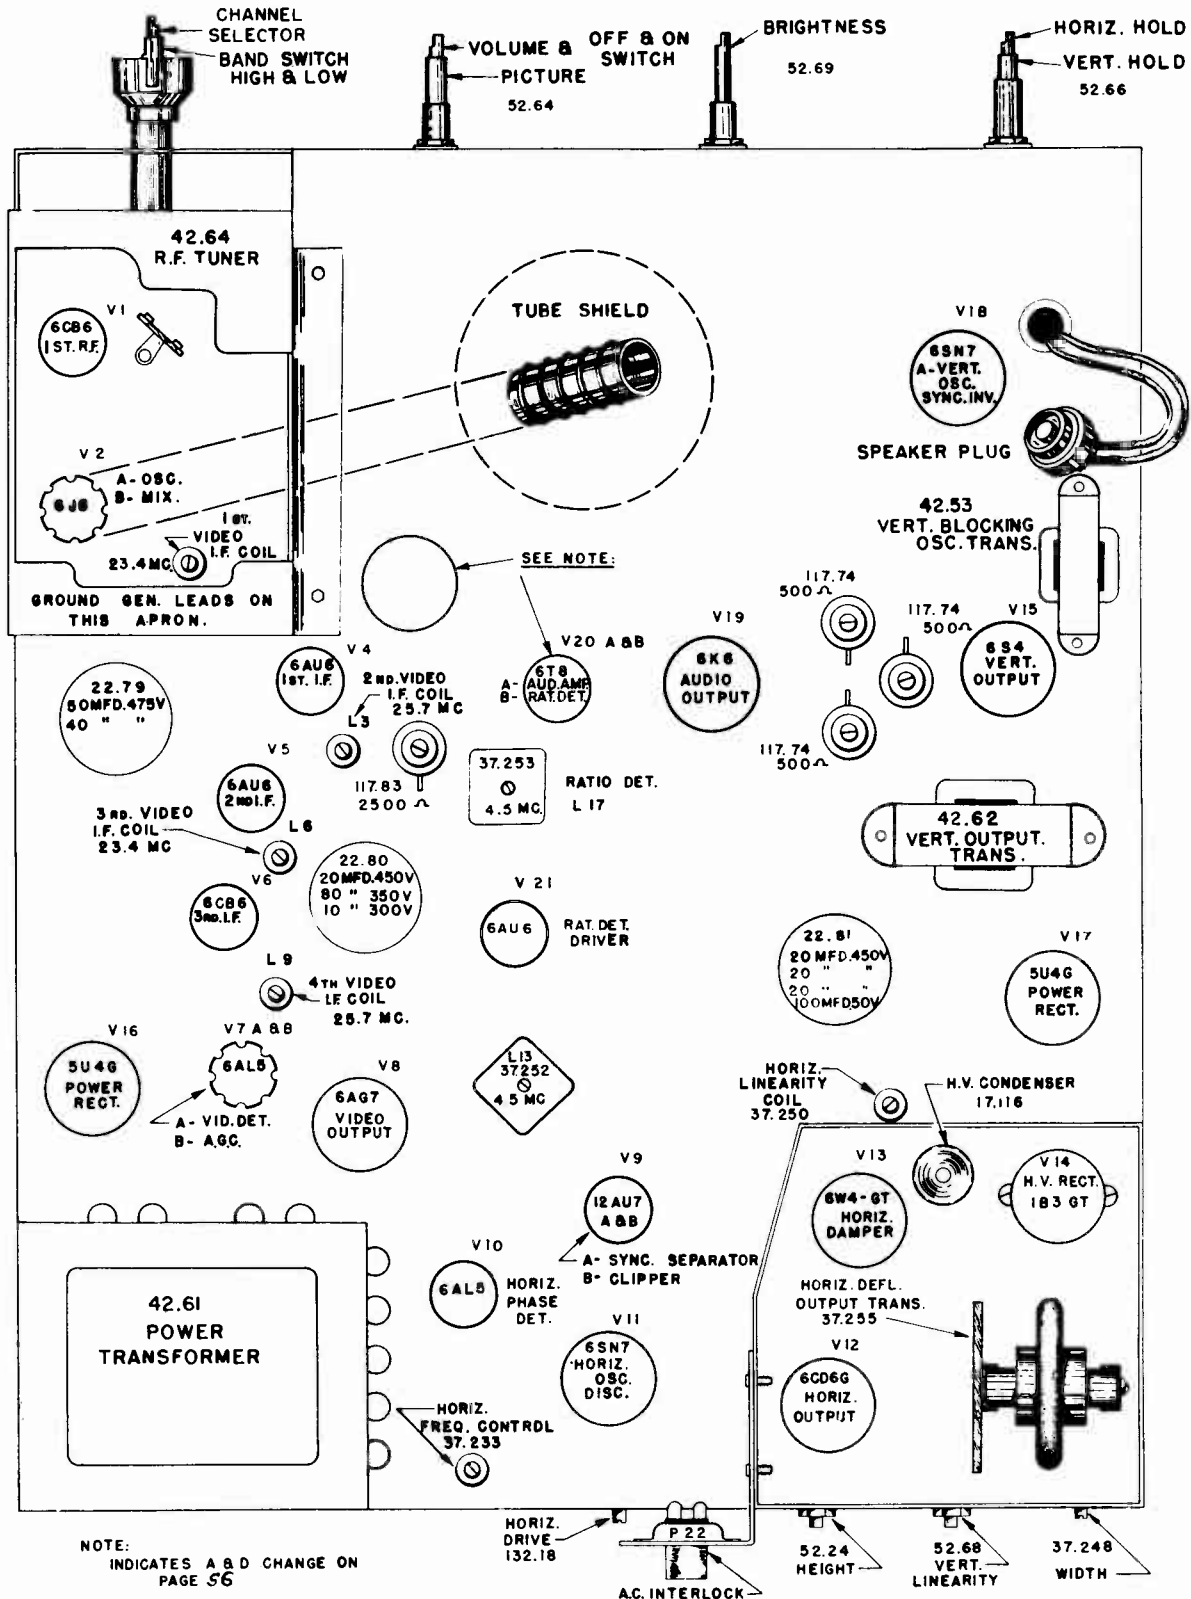

FIG. 8. TOP VIEW OF CHASSIS
5. Peak L17 top core (FIG. 8) for maximum.
8. Adjust L17 top core (FIG. 8) for exactly 4 volts on the VTVM.
10. Peak L12 bottom (FIG. 7) and L13 top (FIG. 8) for maximum.
3. Adjust L17 top (FIG. 8) for zero reading on the VTVM.
1. Remove the shield cover from the converter tube V2 (6J6) (FIG. 8). Compress the sides of the shield slightly between fingers to form an oval, slip cover back over converter tube V2 (6J6) carefully making certain that the shield does not touch chassis ground. Connect the output of the signal generator to the floating shield. Ground generator to rear apron of RF unit.
4. Peak first video IF coil (located on RF Tuner), and the third video IF coil L6 (FIG. 8) for maximum.
6. Peak second video IF coil L3 and the fourth video IF coil L9 (FIG. 8) for maximum.
2. Connect the sweep generator to the ungrounded converter shield (FIG. 8).
8. Set the signal generator to 23.8mc. and flat-top video curve by adjusting the first video IF coil (located on RF Tuner) and the third video IF coil L6 (FIG. 8). Marker should be near end of curve. See FIG. 6. IF CURVES AND MARKERS.